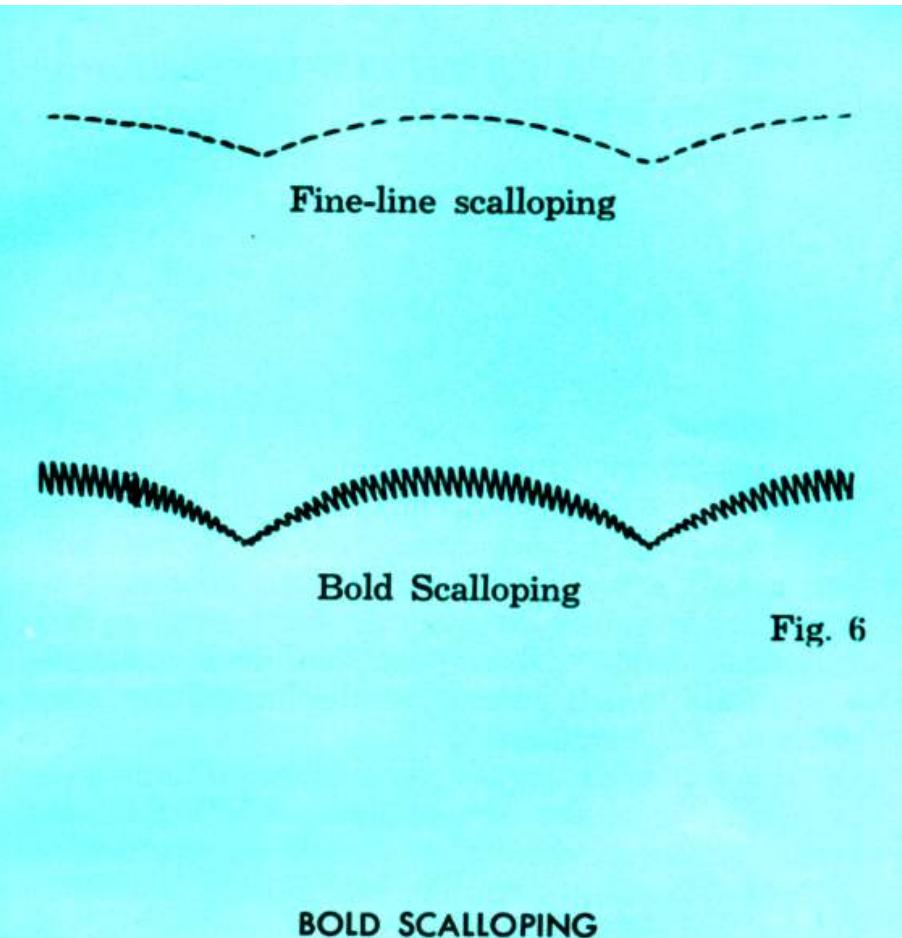

Fig. 6
*Design Graduating Knob:* The setting of this Knob depends on desired length of scallop unit. The fine-line scallop illustrated in Fig. 6 was obtained with the Design Graduating Knob at 1.5.
- B. After you have completed the fine-line scallop as illustrated in Fig. 6, remove Scalloping Disc from machine.
Set machine in same manner as for « Automatic monogramming » (see Page 57). The setting of your Design Graduating Knob will, of course, depend on the desired length of each unit of your scallop. The heavy scalloping shown in Fig. 6 was obtained with the Design Graduating Knob at «4»
- B. Place fabric under presser foot and by following the fine guide line you have already made with the Scalloping Disc No. V, cover it with the bold scallops formed by Disc Group No 0 - 25 - 0. See Fig. 6.